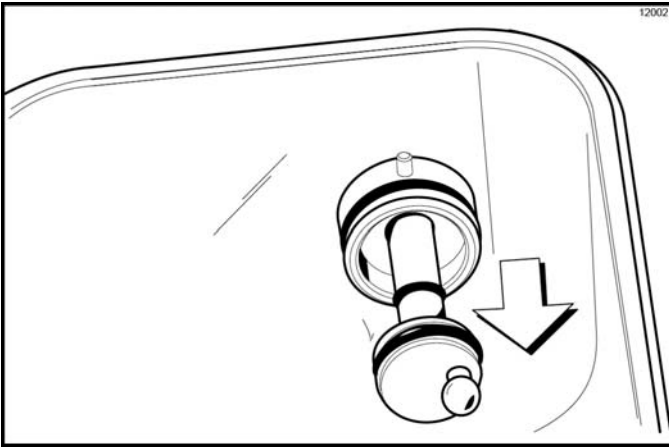

Figure 6-122
6. Remove the pump driveshaft from the drive hub in the rear wall of the mix hopper. (See Figure 6-122.)